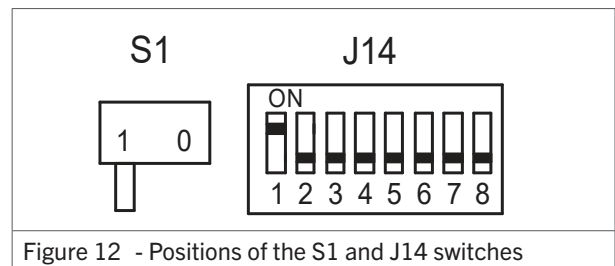

Figure 12 - Positions of the S1 and J14 switches
2. Set the S1 and J14 switches on the control unit as follows (figure 12 / 13):